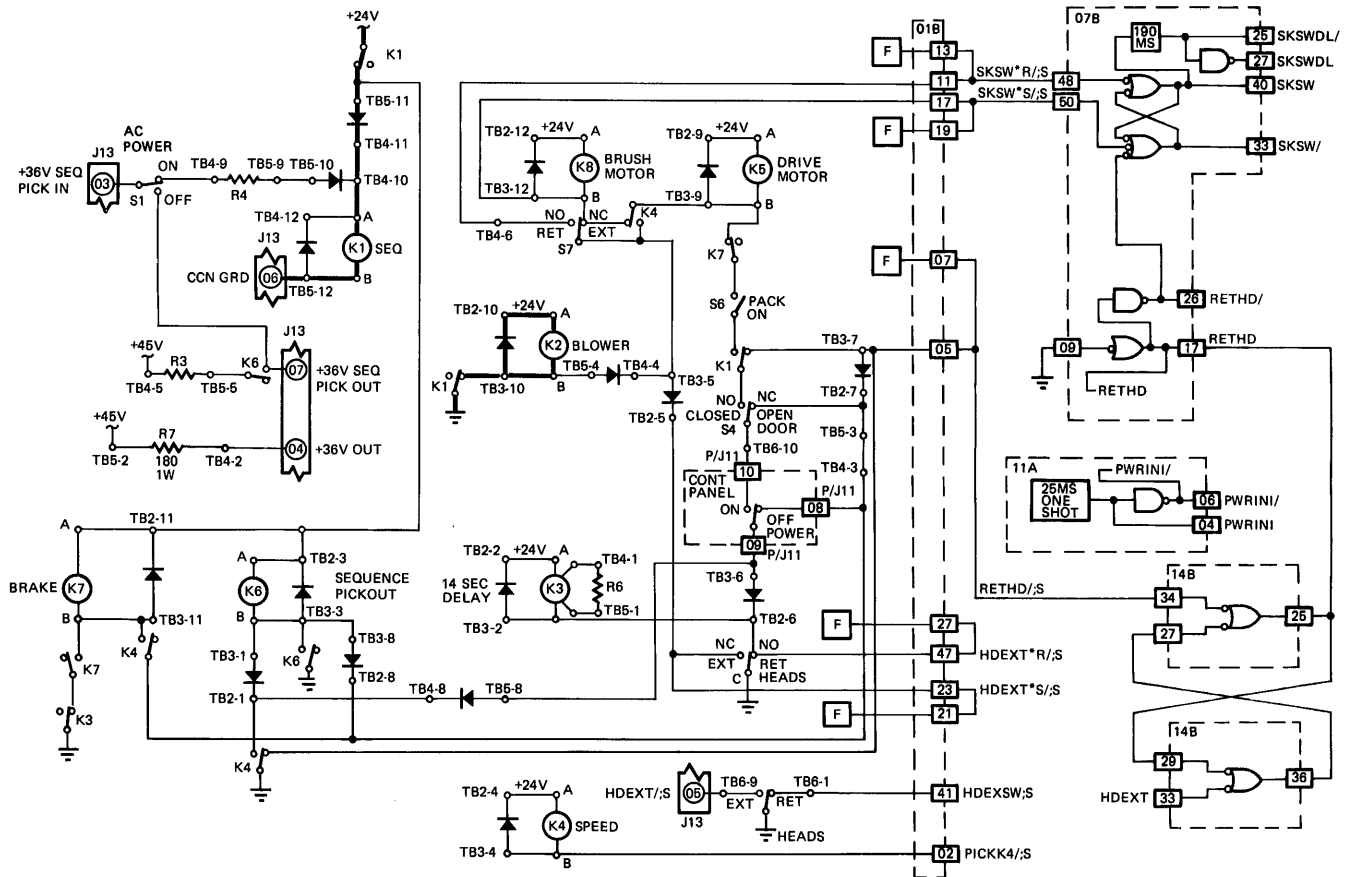

Figure 3-6. Energizing Blower Relay K2
- Figure 3-6. Energizing Drive Motor Relay K5